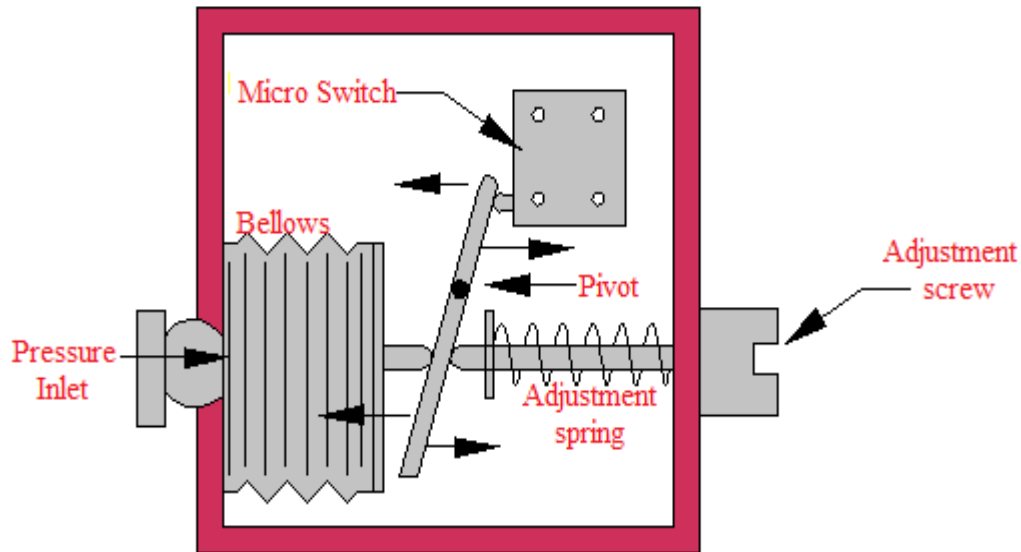

Fig .5.11 Bellows type pressure switch
- The pressure switches basically falls into three general categories depending upon the manner of operation. The principle of working of one type, called the bellows type is illustrated in the fig.5.11. The actual switches, however, vary considerably in their mechanical design.